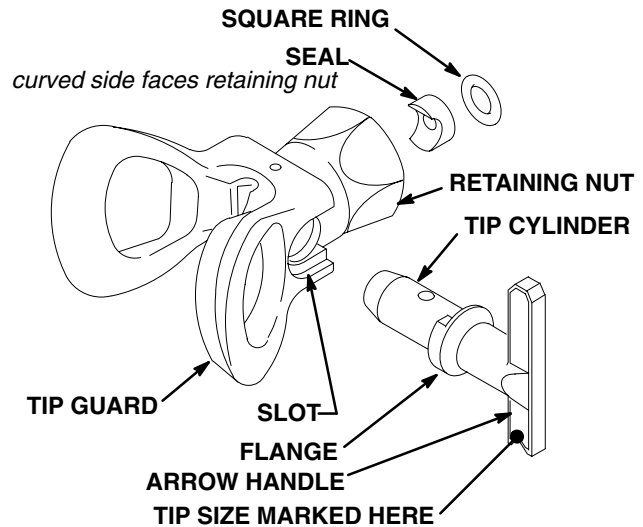

Fig. 7
2. Be sure there is no spray tip in the gun. See Fig. 7 if the tip needs to be removed.
Two tips are provided with the gun. The size is marked on the cylinder handle. The size 621 tip comes installed in the tip guard. Each tip comes with a square ring and a seal. Refer to **Changing spray tips** and Fig. 7.
2. Install the tip cylinder. Hold the cylinder with the arrow handle straight up. Push the cylinder into the tip guard so the flange on the cylinder fits into the slots at the base of the tip guard. See Fig 7. Then turn the arrow handle in the direction of the tip guard, which is the spraying position. See Fig. 8.
3. Be sure the seal and square ring are in place as shown in Fig. 7. If not, place the seal on the end of a pencil with the curved side out. Guide the seal into the retaining nut and turn it until it straddles the cylinder. Drop in the square ring and press it down.
4. To adjust the direction of the spray pattern, set the trigger safety latch and loosen the tip guard retaining nut. See Fig. 7. Position the tip guard horizontally for a horizontal pattern or vertically for a vertical pattern. Retighten the retaining nut.
2. Remove the spray tip from the gun. See Fig. 7.